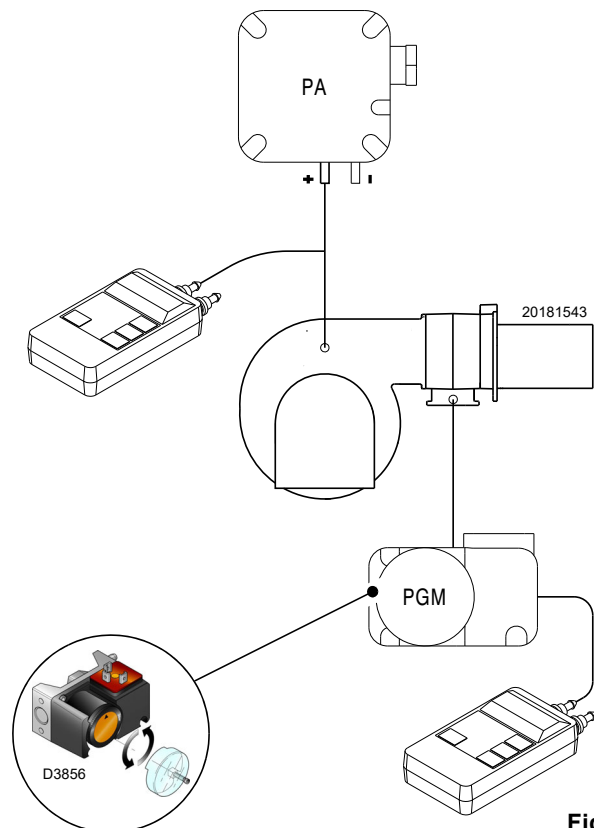

Fig. 29
- Adjust the maximum gas pressure switch (Fig. 29 at page 32) to the end of the scale.
Adjust the maximum gas pressure switch (Fig. 29) after making all other burner adjustments with the maximum gas pressure switch set to the end of the scale.